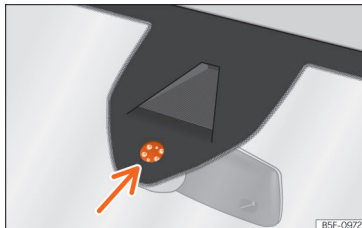

Fig. 114 Rain sensor sensitive surface
Possible causes of faults and mistaken readings on the sensitive surface »» Fig. 114 of the rain sensor include:
- Clean the sensitive surface of the rain sensor regularly and check the blades for damage »» Fig. 114 (arrow).